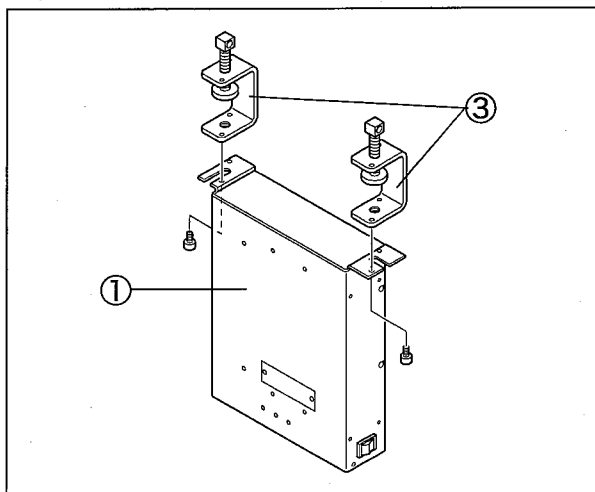

Fig. 2-6
3. Install it onto the bottom of the table with clamps (screws above the table), so that the control box can be removed easily. (Fig. 2-6, 2-8)